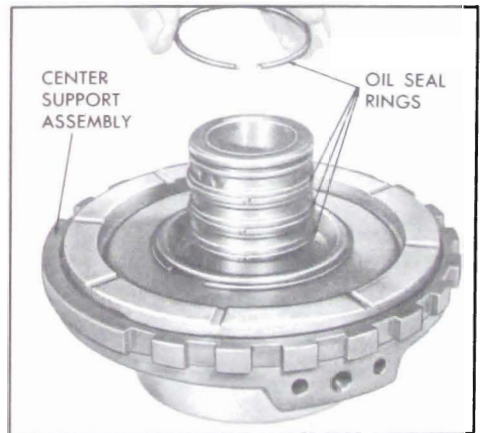

Figure 5-658
1. Remove four (4) hook type oil seal rings from center support. See Figure 5-658.